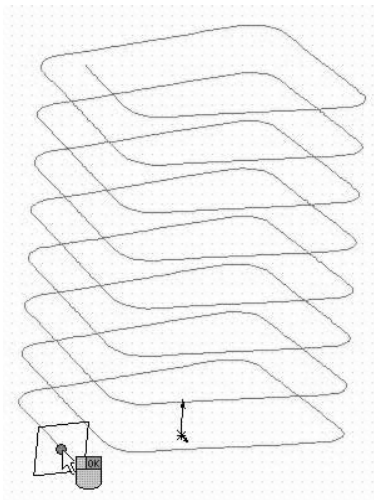

Figure 10 - Preview of the Reference Plane
27. Specify the lower endpoint of the composite curve as the location at which the plane will be normal to it; the preview of the reference plane is shown in Figure 10.